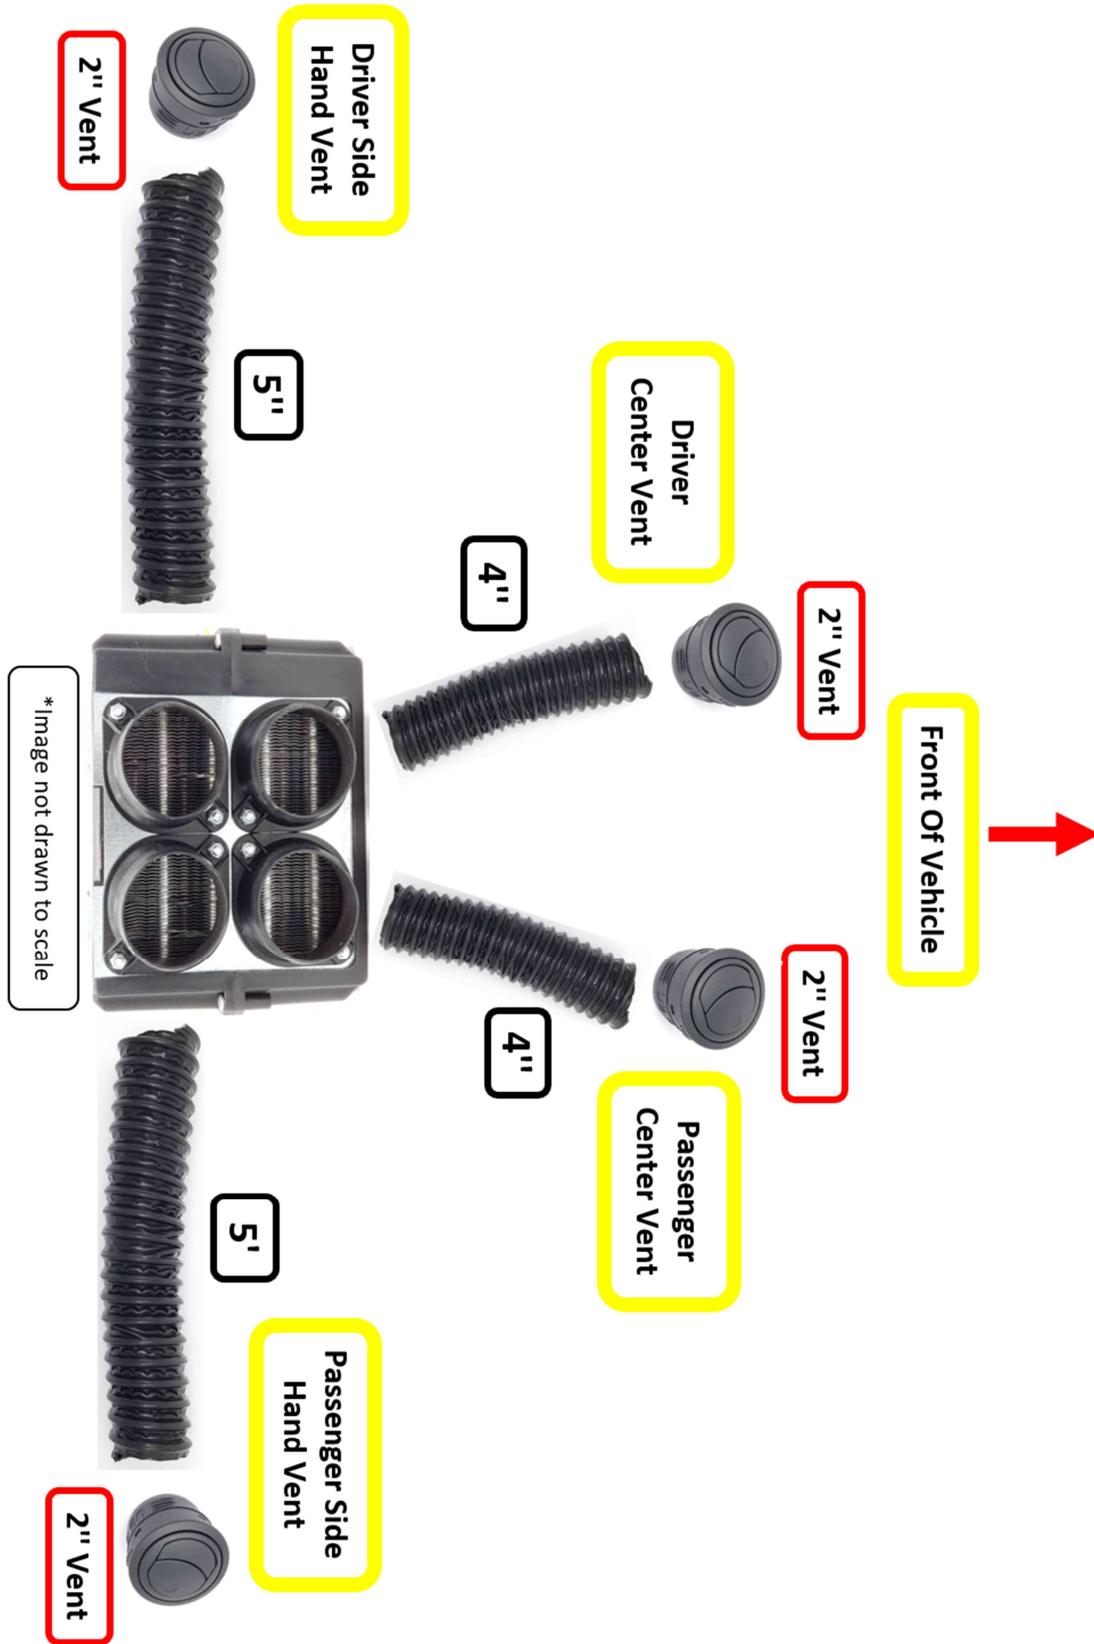

Figure 13
- h. Cut the included 2" Duct Hose as shown in Figure 13. **Note all dimensions are in a compressed state.**
- d. Using Figure 13 as reference, connect the duct hoses as shown starting with the rear most vents. Connect the 3" Duct Hose to the motor inlet. Secure each hose to the plastic ports using the supplied zip ties.